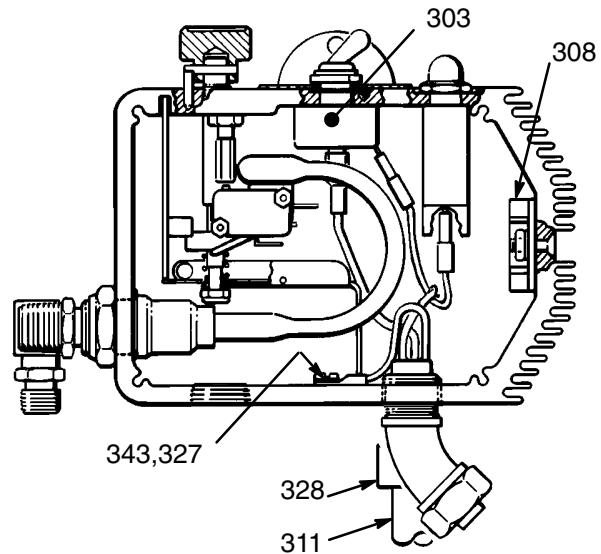

Fig 26-1
Refer to Fig 26-1.
2. Use a needle nose pliers to disconnect the upper terminal wire from the microswitch (302) for ease in removing the ON/OFF switch (303). Refer to Fig 26-1.
3. Use pliers to disconnect the two black wires from the ON/OFF switch (303). Refer to Fig 26-1.
4. Use a 5/8 in. socket wrench to loosen and remove the nut and rubber boot (304) from the top of the pressure control box. Remove the switch guard (305).
6. Install the new switch so the internal tab of the anti-rotation ring (W) engages with the vertical groove in the threads of the switch, and the external tab engages with the blind hole (D) of the pressure control box.
7. Install the switch guard (305), aligning the internal tab with the groove in the threads.
8. Powder the inside of the rubber boot (304) with talcum, then shake excess out of boot.
10. Reconnect the wires to the ON/OFF switch (303) and reconnect the wire to the microswitch (302).